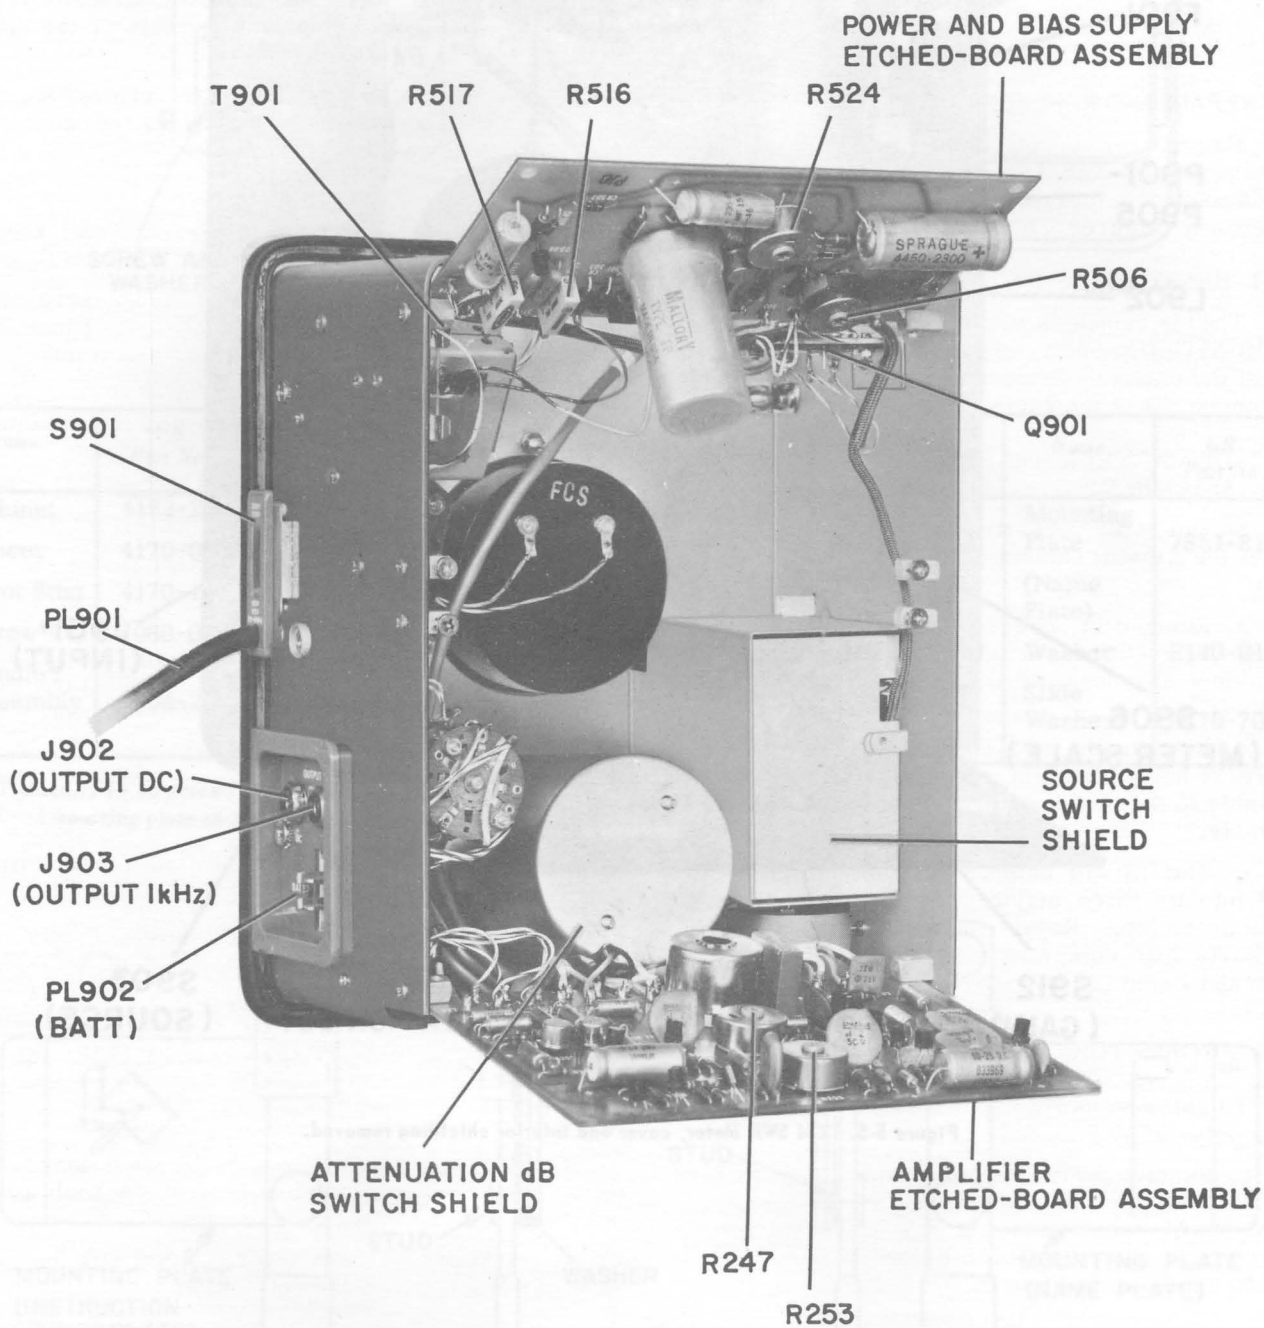

Figure 5-4. 1234 SWR Meter, cover removed and interior shielding shown in place.
a. Remove the two Phillips-head screws that secure each of the output amplifier and power supply etched-board assemblies to the side wall of the instrument chassis and rotate each etched-board assembly outward as shown in Figures 5-4 and 5-5.
Figure 5-4 shows the instrument with its shielding secured in place. Remove these shields, if required, to gain access to ATTENUATION dB switch S904 and SOURCE switch S903 and their associated parts which are shown in Figure 5-5.